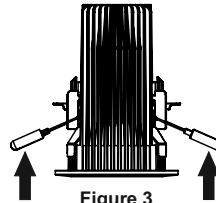
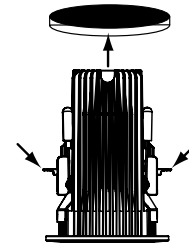
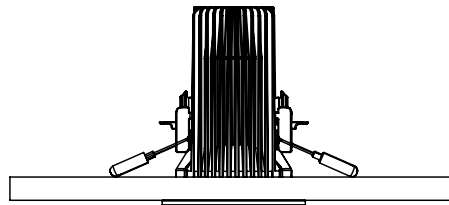

Figure 3
Figure 4
Figure 5
**Step 4.** Load the spring clips on the module into the "up" position by depressing the clips, as illustrated in Figure 3. The clips will lock into place when vertical, as shown in Figure 4.
**Step 5.** Insert the module into the ceiling (Fig. 4). Each clip has a trigger (indicated by arrows on the left and right in Figure 4), and will depress as the module is being inserted into the ceiling. Upon depression of the triggers, the clips will be released and press against the ceiling, holding the module in place (Fig. 5).